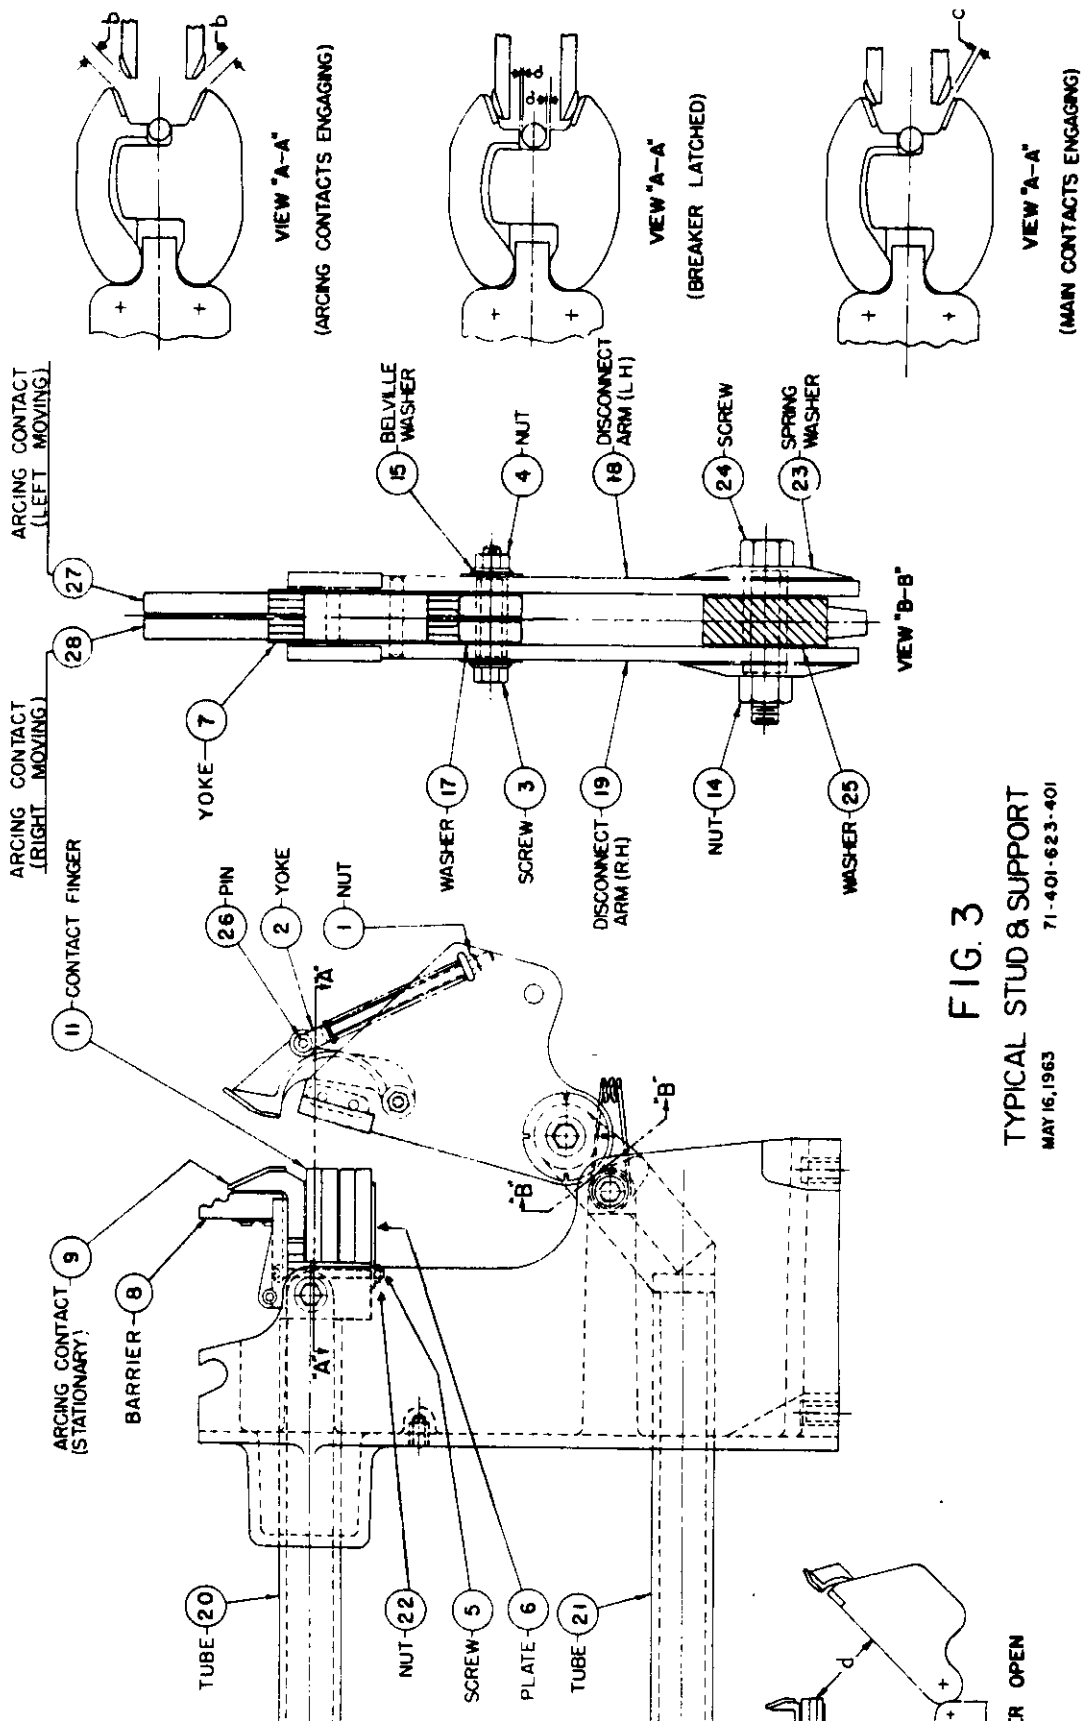

FIG. 3
If not already detached, remove pin (1-46) to detach link (1-47) from disconnect arms (3-18) and (3-19). Move the disconnect toward the closed position until the arcing contacts just touch (See Fig. 3, View A-A, arcing contacts engaging).
The shortest gap between the bottom contact fingers (3-11) and the disconnect arms (3-18) and (3-19) should be $1/4$ inch plus 0, - $1/32$. (Dimension b in View A-A of Fig. 3). Adjustment is made by loosening or tightening nut (3-1).
4.15 CONTACT STROKE (Fig. 3)
With breaker in closed position, dimension a (View A-A of Fig. 3) on the top pair of fingers should be $1/16$ plus $1/16$ -0. Adjustment is made with the breaker in the open position by increasing or decreasing the effective length of link (1-47) by means of nuts (1-10). Each phase is adjusted individually.
- 19- Remove disconnect arms as a unit by removing screw (3-24) and nut (3-14). Refer to Fig. 3. Carefully inspect all contact surfaces in hinge joint. Silver washer (3-25) and adjacent surfaces should be clean and free of roughness or galling. Lubricate silver washer and mating surfaces by rubbing in microfine dry graphite used sparingly. Reassemble hinge joint. Tighten hinge joint per Section 4.12.